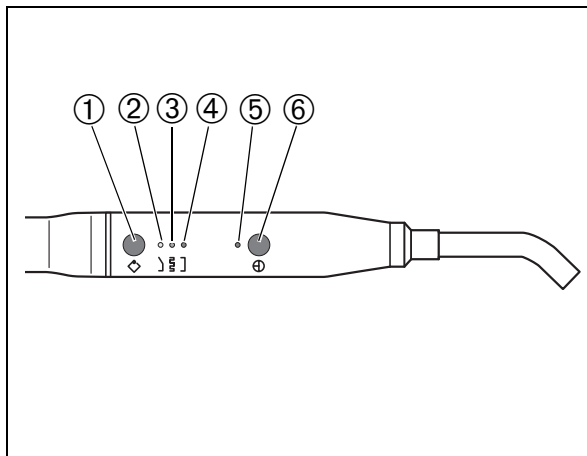

Fig. 83
You can pre-select the various modes by pressing the function key ① (Fig. 83).
You select the mode by pressing the function key. The lamp lights up for 10 seconds after you press the on/off switch. The red display ④ (Fig. 83) indicates your selection.
You select the mode by pressing the function key. In this mode, the lamp lights up with full power and emits the radiation in 10 consecutive light intervals of 250 ms. The orange display ③ (Fig. 83) indicates your selection.
You select the mode by pressing the function key. The yellow display ② (Fig. 83) indicates your selection.